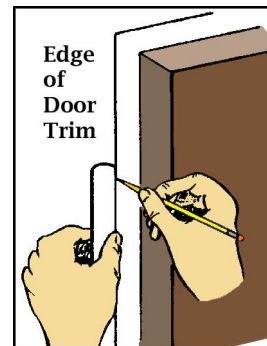

Figure 3
- **Step 5** Print several copies of the alignment guide onto cardstock and cut them out, leaving as much around the silhouette as possible. Take note that the conduit shrouds are wider than the fins. Trim out the silhouettes, and slip one over the bottom of the body tube, about 1" up. Use the alignment guide to locate the marks for **both sides** of the three conduit shrouds and the launch lug on the body tube. Draw all of these lines the full length of the tube, using the trim around a door as shown in Figure 3, or use a 9" length of 1/4" brass angle stock (see the Handbook for a full explanation), to keep the lines parallel to the body.